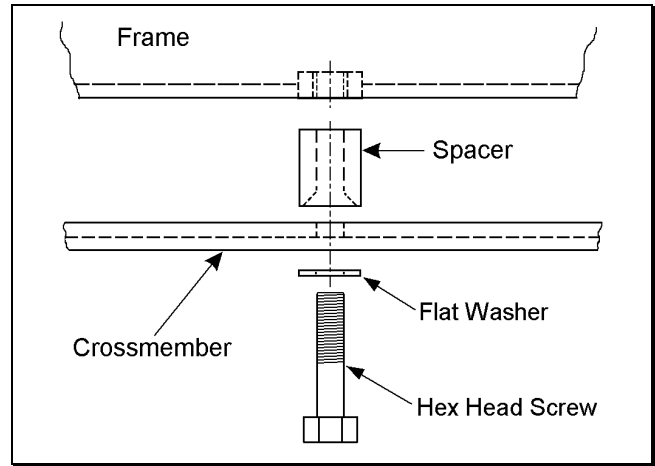

Figure 18
- 5) If hex head screws were removed, install the hardware from kit 860483. See figure 18.